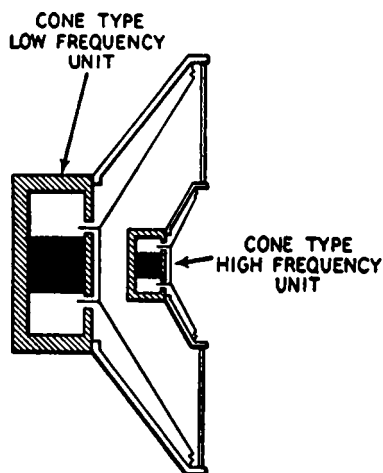
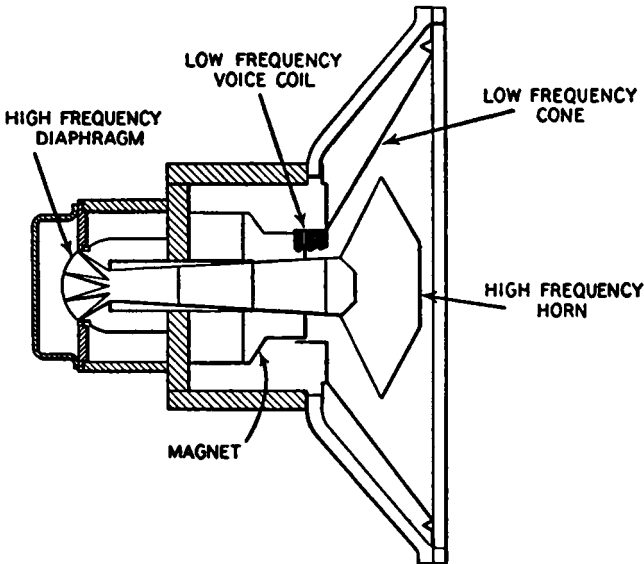

Fig. 2-5. Coaxial speaker.
Fig. 2-6. Duplex speaker with horn-type high frequency unit.
**Duplex or Coaxial Speakers.** Speakers in this class follow one of two distinct design patterns. In one design, the unit consists of two separate cone speakers, one small and the other large. The smaller speaker is mounted at the front of the larger, as shown in the cross-sectional view of Figure 2-5. In the other design, a horn-type unit is substituted for the small high frequency cone speaker. This is illustrated in Figure 2-6, and you will note that the neck of the horn passes through the center of the larger speaker's magnet. The